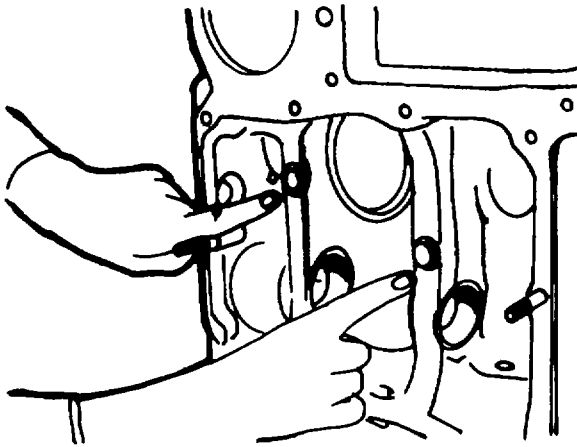

Figure 5-22. Installing Plugs into Bearing Webs
12. Install the two screwed plugs, fitted with new gaskets, in the two bearing webs (figure 5-22).